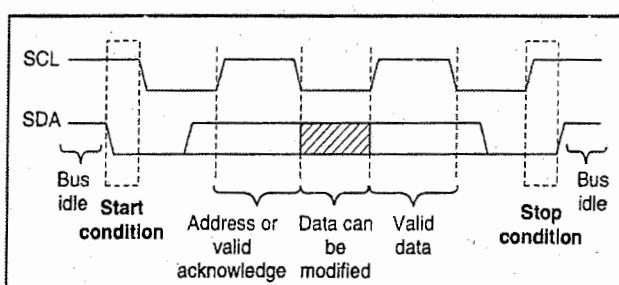

Fig. 14.12.3 : Data transfer sequence on the serial bus
Fig. 14.12.3 shows the sequence of data transfer on the bus.
- Bus not busy** : When the bus is idle both the SCL and SDA lines are high as shown in Fig. 14.12.3 before the start and after the stop condition bus is free.
- Data valid** : If after the start condition, the data line SDA is stable when SCL is high, then it represents valid data as shown in Fig. 14.12.3. If the clock line goes low the data line should be changed.